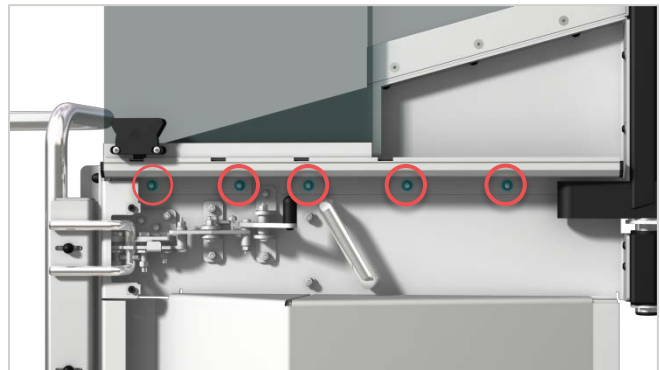

Figure 2 – Loosening/tightening of nuts.
4. After locating the slider track in an acceptable position, tighten nuts to 75 in-lbs. using the $\frac{7}{16}$ " wrench. See **Figure 2** for location of nuts.